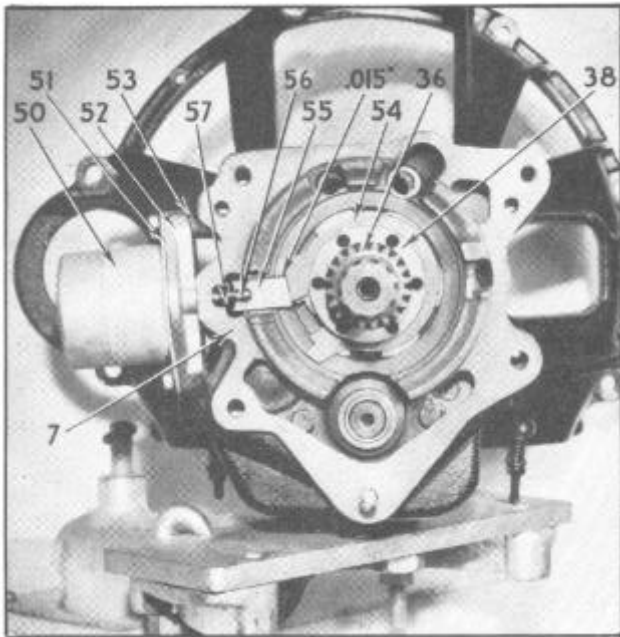
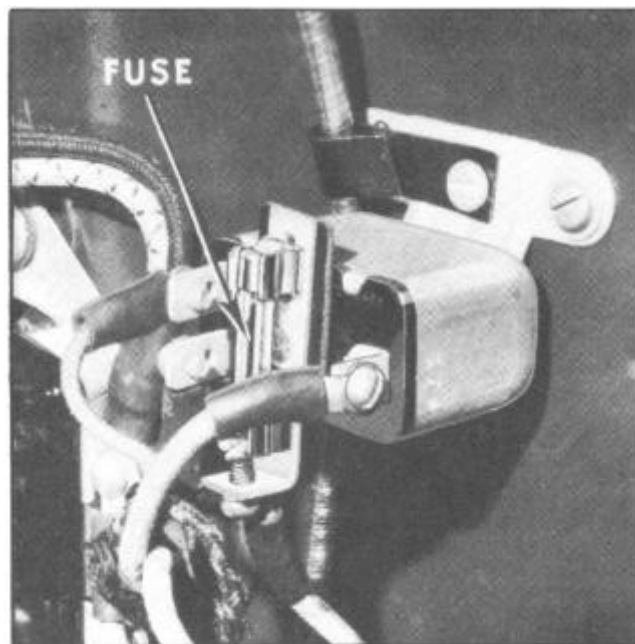

Figure 37--Solenoid Plunger and Stationary Gear Pawl Assembly
Figure 44--Overdrive Solenoid Relay Fuse
1. Remove two cap screws holding solenoid (50), Figure 37, to adapter.
The principal function of the Solenoid (50), Figure 37, is to withdraw the stationary gear pawl from the stationary gear plate, releasing the gear and disconnecting overdrive. This operation also momentarily interrupts the ignition assisting in the withdrawal of the pawl. If, for any reason, the pawl cannot be disengaged by the solenoid, the continued shorting of the ignition would stall the engine. To prevent this, a fuse is inserted in the solenoid relay battery feed circuit, as shown in Figure 44. This fuse will blow if the duration of the flow of current through the solenoid exceeds a